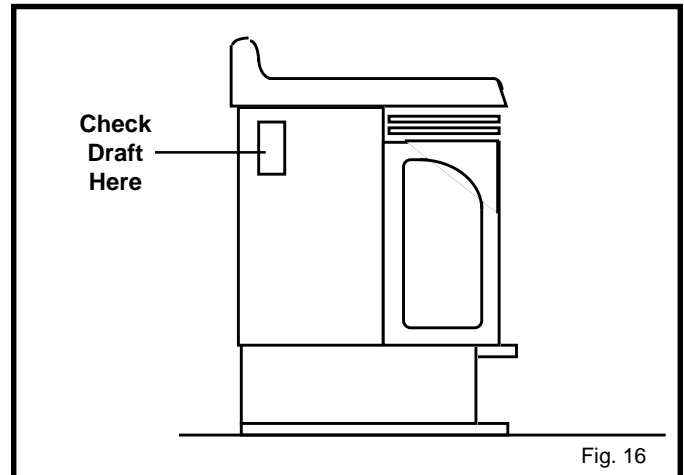

Fig. 16
- 3) After several minutes, test with smoke match that there is adequate "pull" at the draft hood opening (located on the sides of the fireplace near back. See Figure 16) If the flue is blocked (match being blown back into room) the Vent Safety Switch will automatically shut down the heater.